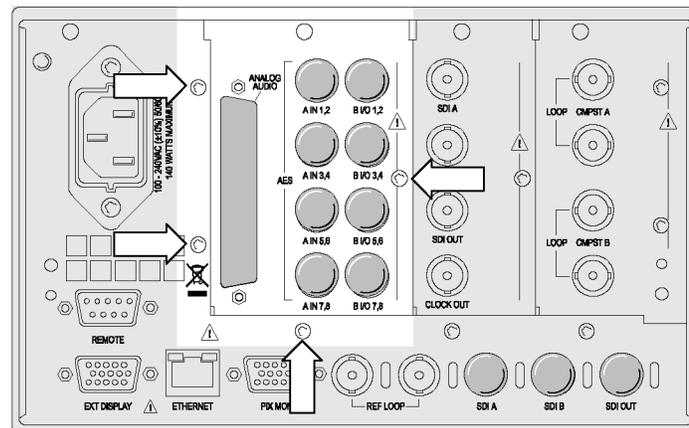

Figure 11: Removing the audio-options rear panel screws
1. Remove the four screws from the audio-options rear panel. (See Figure 11.) Save the screws for reinstallation.